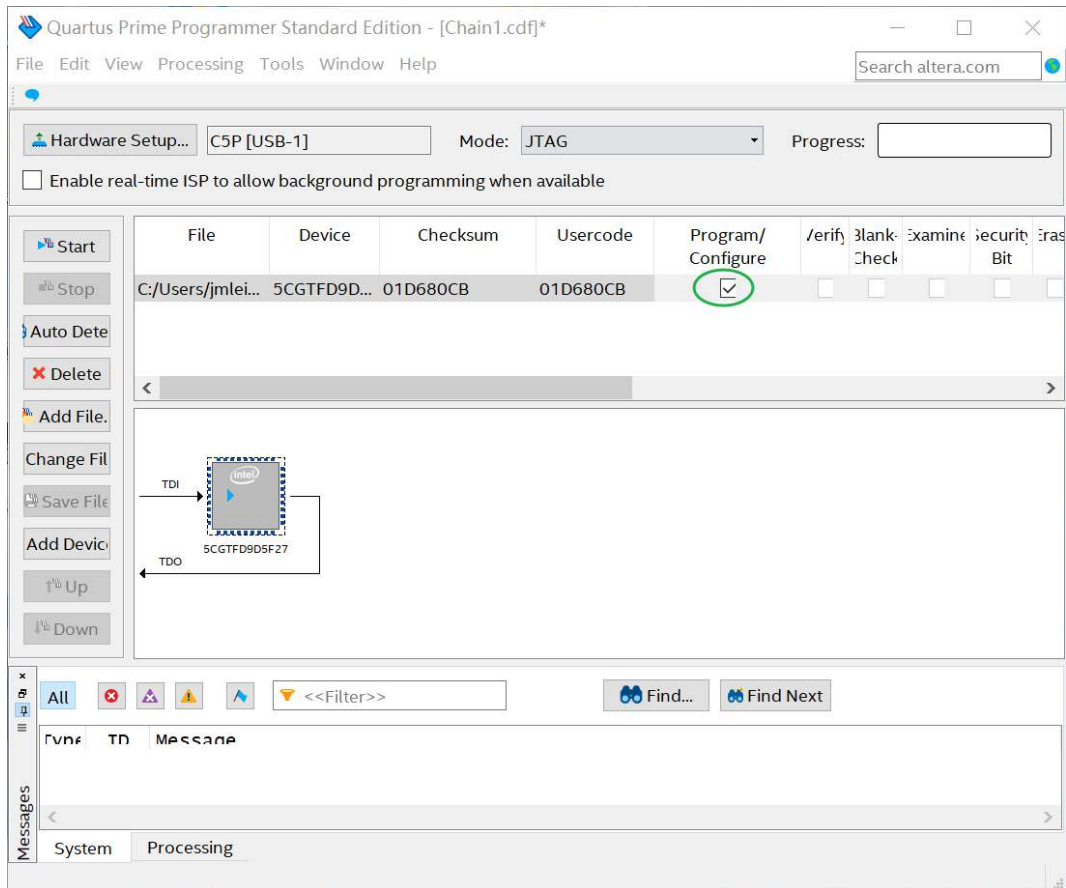

Figure 3-9 Program .sof file into the FPGA device
6. Click “Program/Configure” check box and then click “Start” button to download the .sof file into the FPGA device, as shown in **Figure 3-9**.